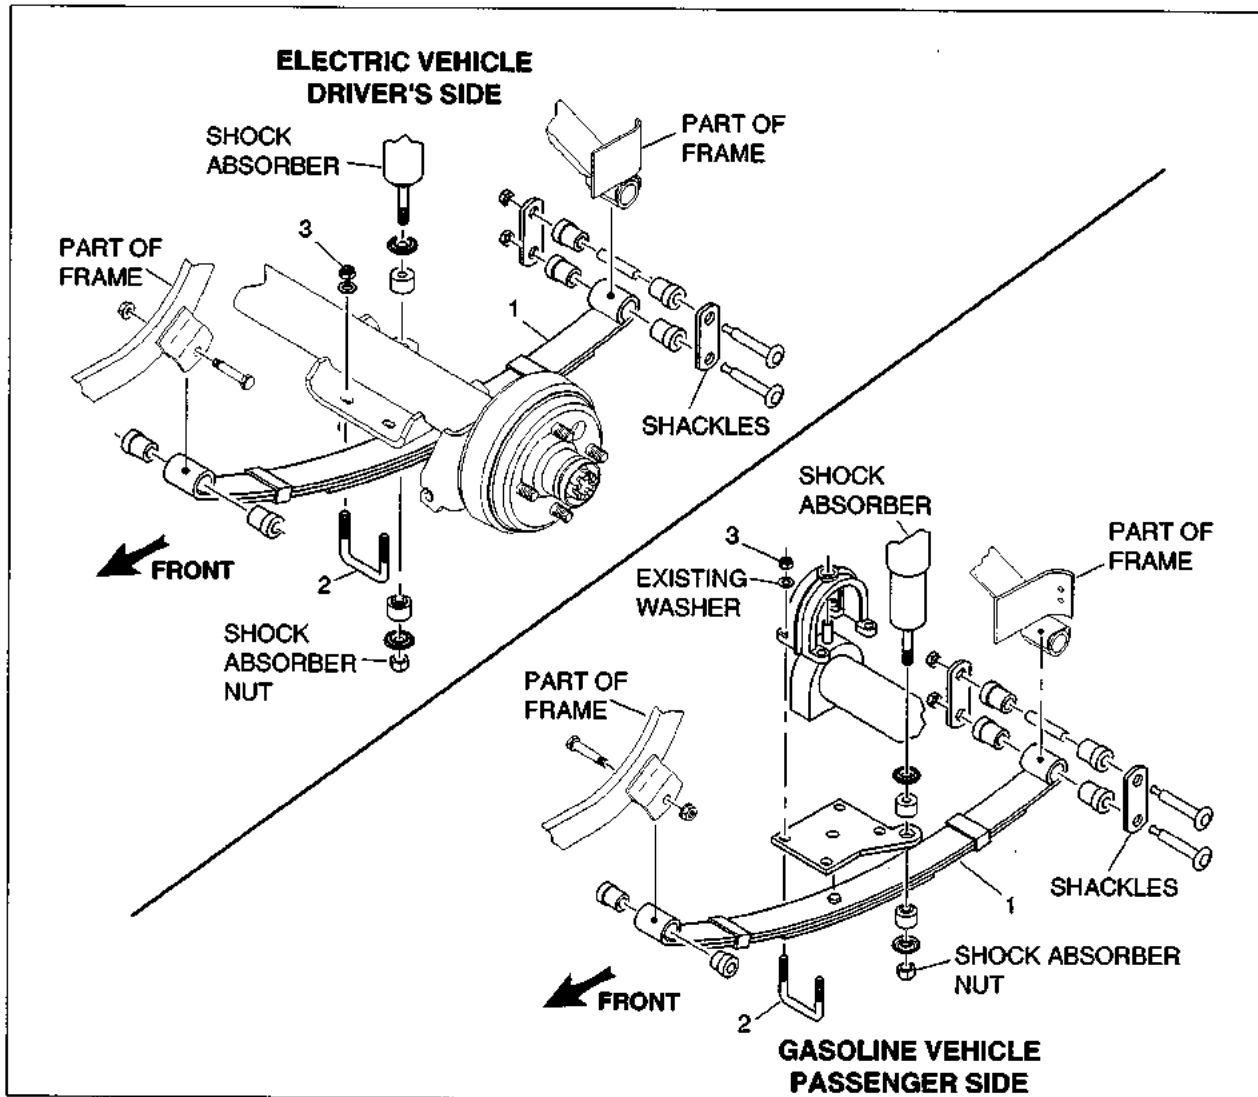

Fig. 2
4. At the passenger side, remove the bottom shock absorber nut. (See Fig. 2)
6. Remove the 'U' bolts and securing hardware. The nuts and 'U' bolts may be discarded but the washers should be retained for later use. (See Fig. 2)